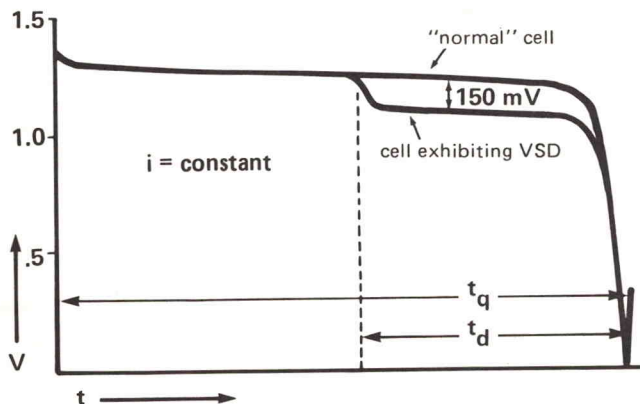

Figure 1 — Discharge curves for a "normal" NiCd cell and a cell exhibiting voltage-step depression.
Voltage-step depression, as observed in General Electric and Saft cells, is a 150-millivolt step reduction in terminal voltage occurring at some point in time during discharge, that point being a function of the duration of previous overcharge and the temperature of the cell during overcharge. Figure 1 illustrates this phenomenon.
1. Except at very low currents, the step height is a constant 150 millivolts independent of the discharge current. As such, depression is measured in terms of the percentage of the constant current discharge curve affected. Referring to Figure 1, this can be expressed as  $D = \% \text{ Depression}$ .